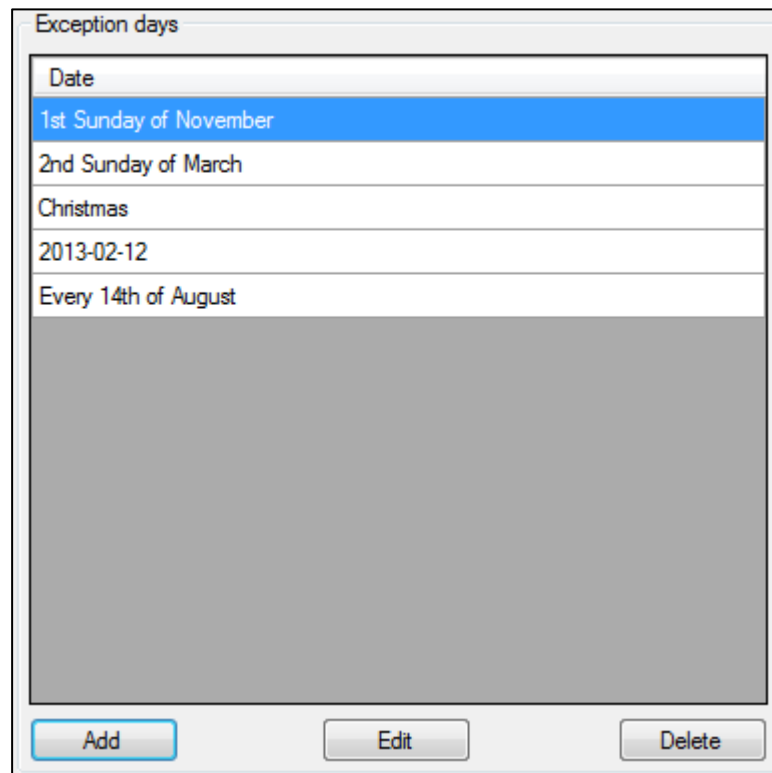

Figure 43: List of the events programmed for “*Exception days*”.
In the “*Exception days*” list (from Figure 43), only the date to which the event applies is indicated in order to simplify the display; no time, no state to apply since each “*Date*” appearing here may be composed of one or many events, that can occur at different times with different states.
- You can eliminate an exception “*Date*” (and all its associated events) by selecting one from the list (of *Figure 43*), then by clicking on the “*Delete*” button, under the frame. A message will ask you to confirm or cancel the deletion.